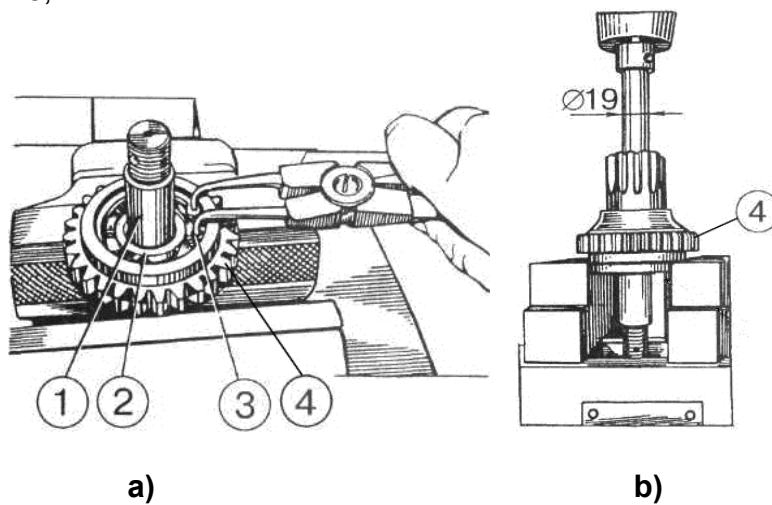

Figure 4.36
- d) remove locking ring 3 (Figure 4.36 a);
- e) press axle 1 (Figure 4.36 a) with bearing 2 off gear 4 (Figure 4.36 b);